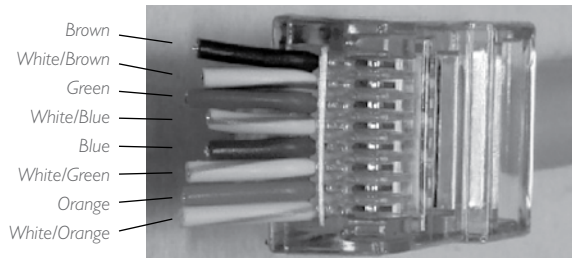
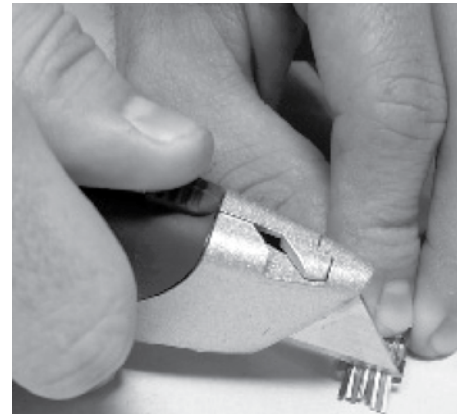

Figure 1.16
Figure 1.17
Figure 1.16 shows an example of the proper wire sequence (from right to left):
- i) If the wires have not been cut short as shown in figure 1.16, the excess wire has to be cut off right next to the connector. We want to make sure there are no stubs protruding that prevent the crimp from latching into a jack (see figure 1.17).